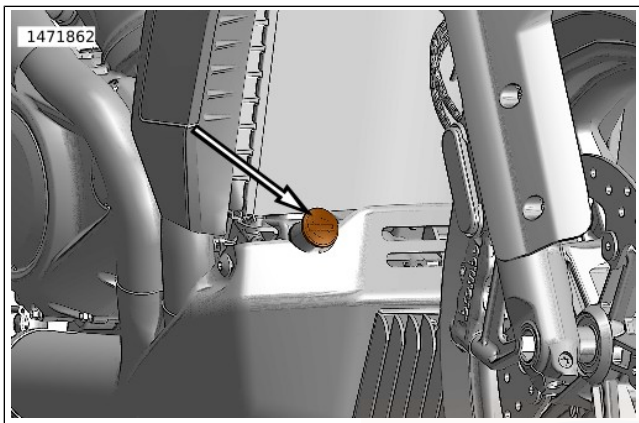

Figure 63. Coolant Filler Cap/Dipstick
3. Remove coolant plug/dipstick. See Figure 63.
5. If level is below "MIN" line (1), add GENUINE HARLEY-DAVIDSON EXTENDED LIFE ANTIFREEZE AND COOLANT until fluid level reaches the "MAX" line (2).
6. Install coolant reservoir plug/dipstick. See Figure 63.